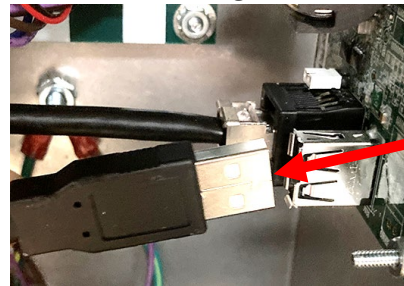

Figure 11
10. If a cellular modem is **NOT CONNECTED** to the KCCM board, skip to step 10. If a modem is connected, disconnect the cellular modem USB cable from the KCCM board (see Figure 11).